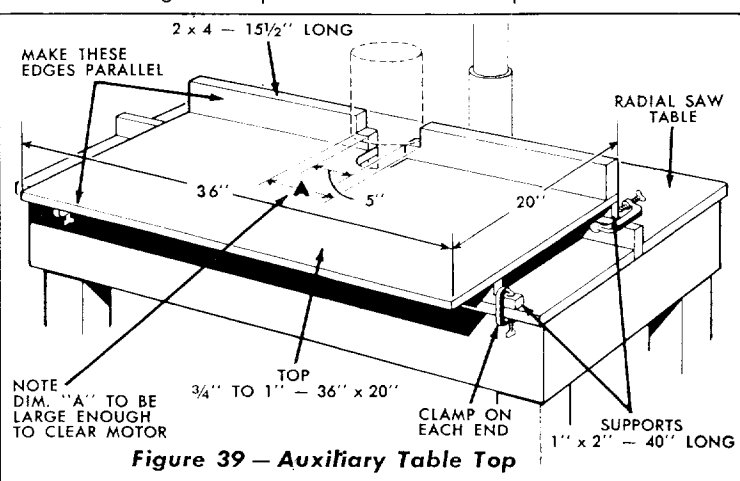

Figure 39 — Auxiliary Table Top
9. An auxiliary table top for molding or shaping can be constructed similar to Figure 39. Note the shape of the back guide fence against which your work piece is moved. A cut-out 5" wide should be made at the center of this guide fence to give adequate clearance for the molding head and cutters. Also a wider clearance marked "A" should be made to allow for the radial saw motor. Be sure the front edge of the auxiliary table is parallel with the surface of the guide fence. With the auxiliary table top thus completed it is ready for use by merely clamping it into position with "C" clamps.